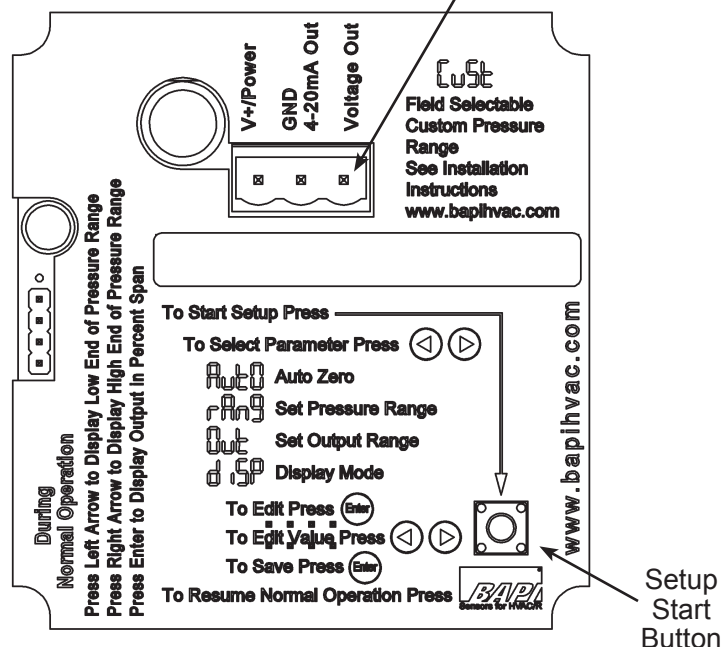

Fig 4: Wiring Terminals Inside Enclosure Cover
- Open the enclosure cover and press the Setup Start Button on the lower right of the circuit board. (See Fig. 4)